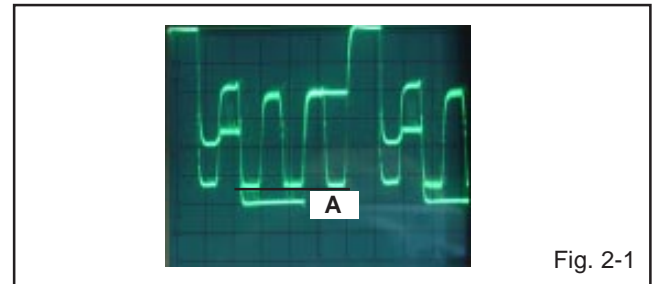

Fig. 2-1
5. Press the VOL. UP/DOWN button on the remote control until the section A becomes as straight line. **(Refer to Fig. 2-1)**